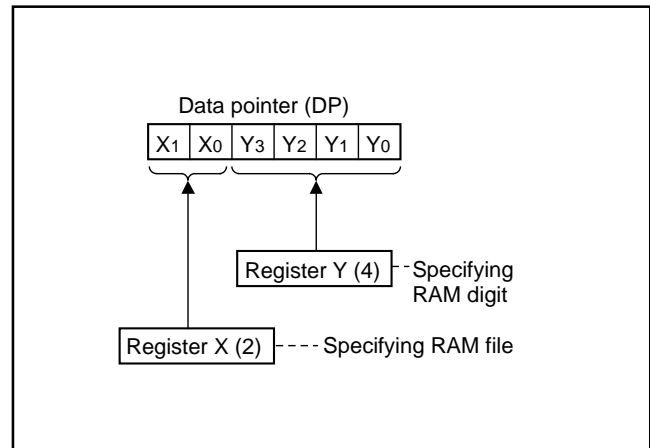

Fig. 8 Data pointer (DP) structure
(9) Data pointer (DP)
Data pointer (DP) is used to specify a RAM address and consists of registers X and Y. Register X specifies a file and register Y specifies a RAM digit (Figure 8).